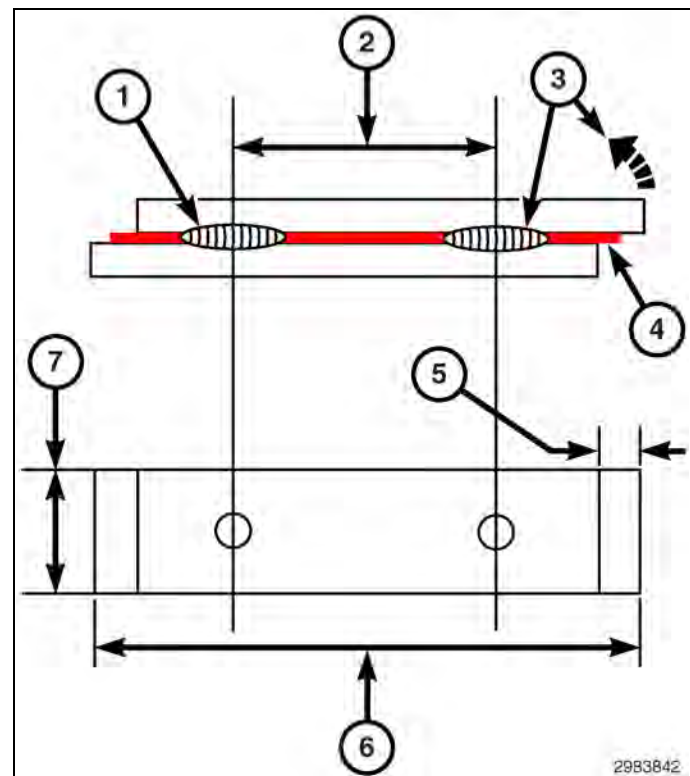

Fig. 13 Weld Coupon
3. Using the procedure outlined, (Fig. 13), prepare the test coupons.
8. As shown in (Fig. 13), place first weld at a position at least 12.5mm. (0.5 in.) away from end weld coupons. Then make the second weld. The weld spacing should be the same distance as the original welds or the closest existing weld, whichever is the least on the vehicle being repaired.